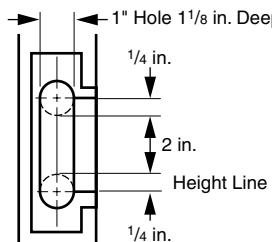

Figure 13.59 Clear area between holes.
6. Mark vertical and height lines on the jamb exactly opposite the center point of the lower latch hole. Mark a second horizontal centerline 2 inches above the height line for the deadbolt hole. Bore a 1-inch-diameter hole $1\frac{1}{8}$ inch deep and $\frac{1}{4}$ inch below the height line. Bore a second hole to the same dimensions $\frac{1}{4}$ inch above the second horizontal line. Clear out the area between the holes for the strike box (Fig. 13.59).